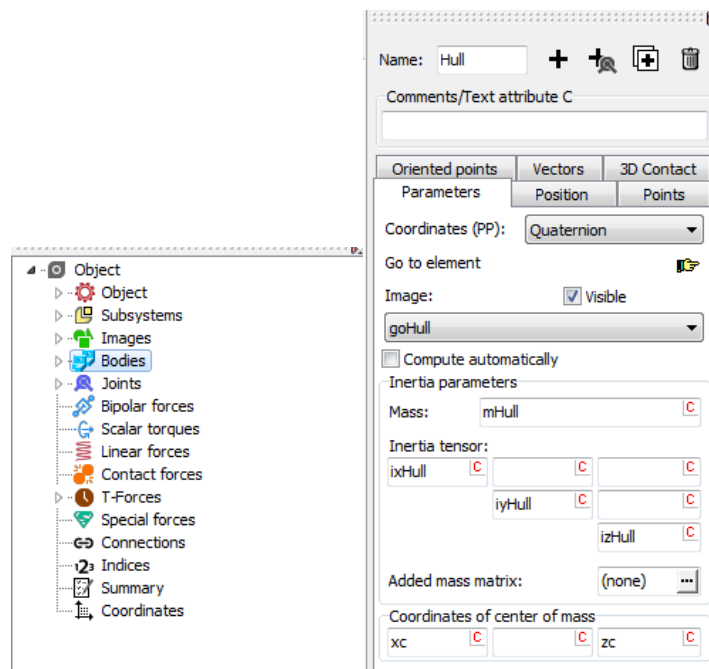

Figure 1.26. Adding a body
- select the Bodies item of the element list, Figure 1.26;
It is recommended to parameterize the inertia parameters like in Figure 1.26. An example of numeric values of inertia parameter is shown in Figure 1.27.